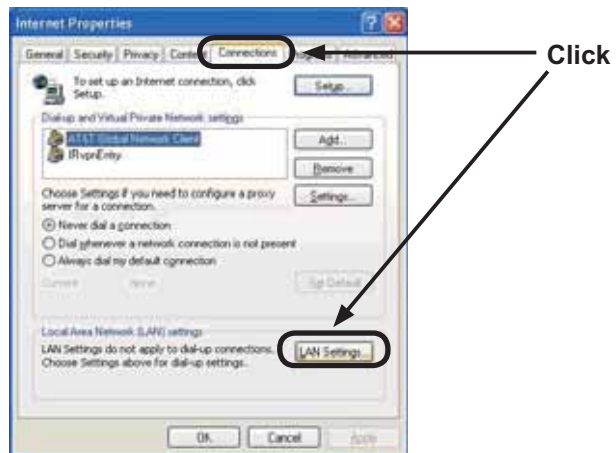

Fig. 2.2.3.b “Internet Properties” window
- 2) Click “Connections” tab and then click [LAN Settings] button to open “Local Area Network (LAN) settings”. (Fig. 2.2.3.c)